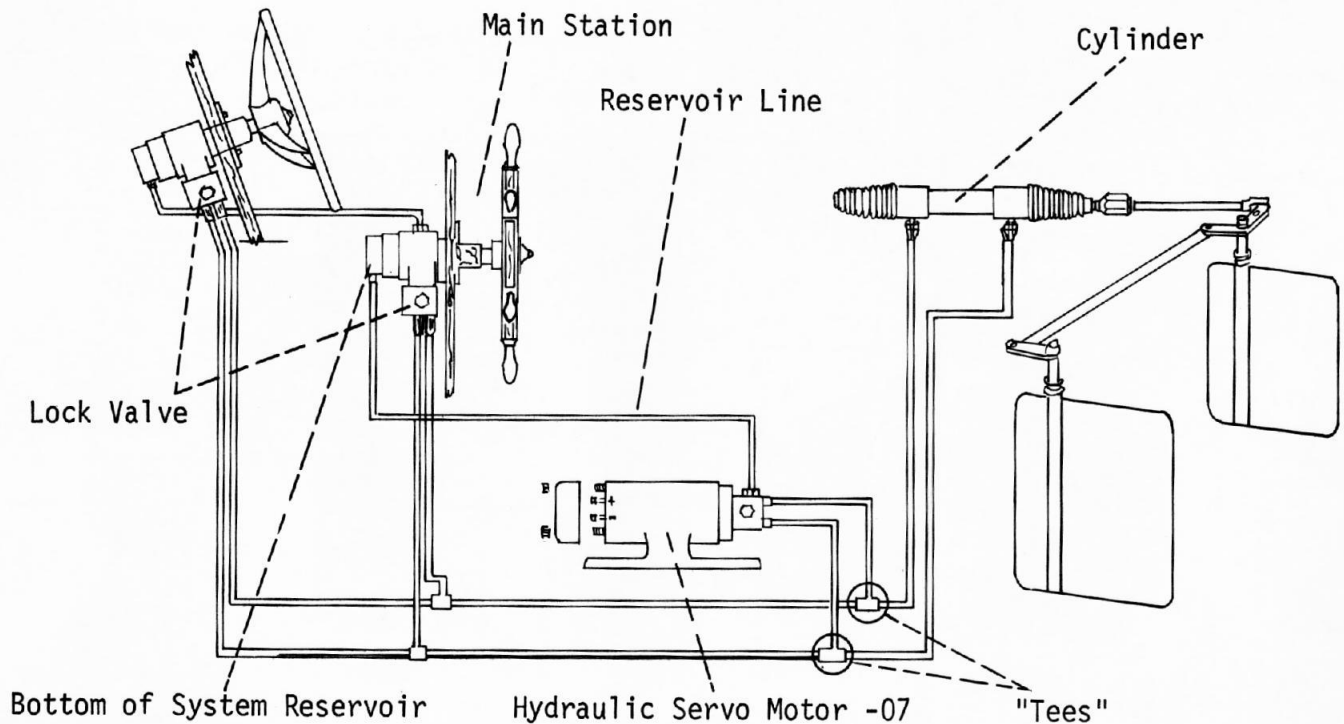

FIGURE 30. DIAGRAM OF HYDRAULIC SYSTEM WITH CUTS AND "TEES"
3. Cut the lines on the steering system as shown in Figure 30. FOLLOW CUTTING INSTRUCTIONS, Section 2.8.1, page 27.
7. MAKE SURE THE SERVO MOTOR PUMP BLEED LINE IS CONNECTED TO BOTTOM OF THE SYSTEM RESERVOIR. See Figure 30.